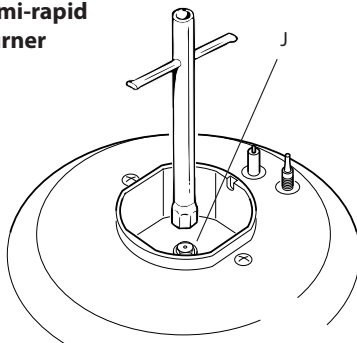

Fig. 19a
- Using a wrench, substitute the injectors "J" (figs. 19a, 19b, 19c) with those most suitable for the kind of gas for which it is to be used.